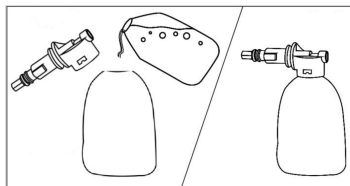

Figure 10: How to fill the detergent bottle.
- Remove the Lance (5) from the Trigger Gun (1).
- Fill the detergent bottle with no more than 300 ml of correctly diluted detergent solution, as shown in Figure 10.